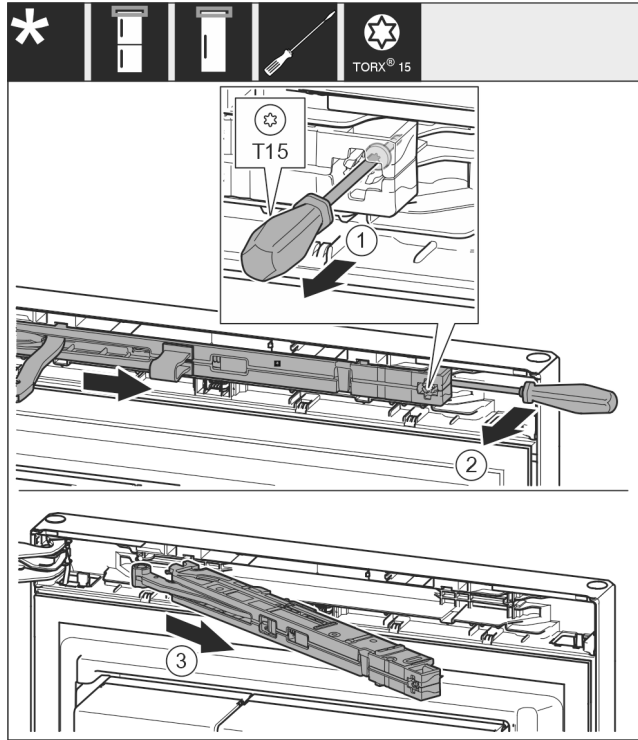

Fig. 13
- Loosen the soft stop mechanism screw with a T15 screwdriver approx. 14 mm. *Fig. 13 (1)*
- Insert a screwdriver behind the soft stop mechanism on the handle side and rotate the unit forwards. *Fig. 13 (2)*
- Remove the soft stop mechanism. *Fig. 13 (3)*